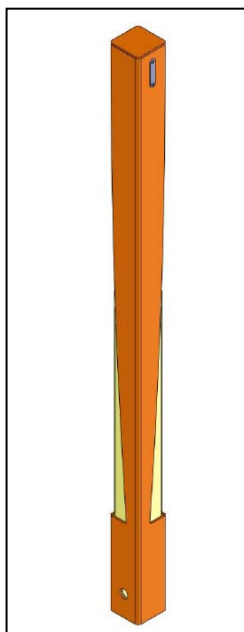

Fig. 2
1. Drill a hole of appropriate size in the ground (Fig. 2):